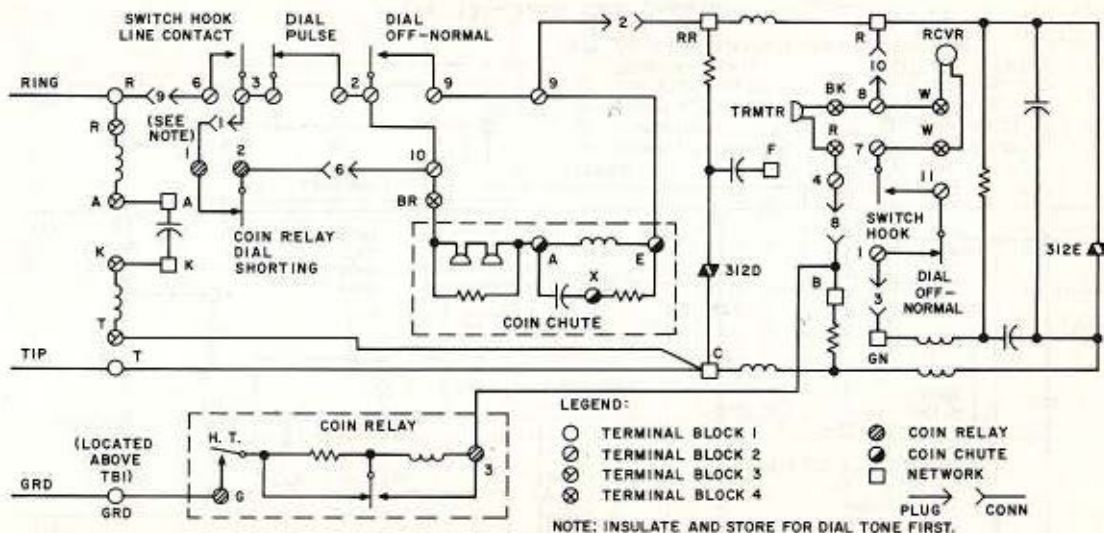

Fig. 12 - 235G Coin Collector
- Fig. 12 — 235G Coin Collector